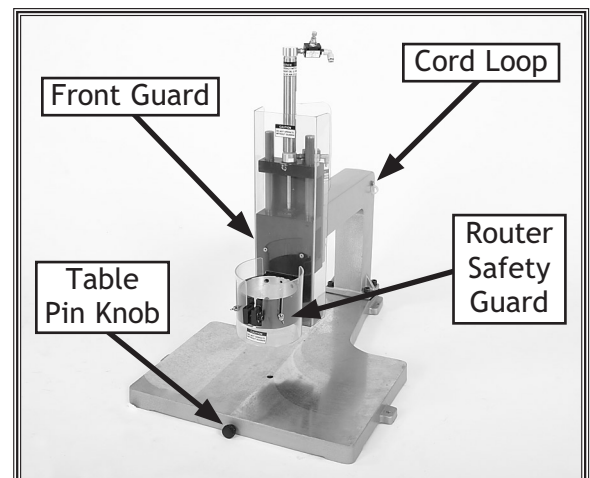

Figure 5. Front and router guards, cord loop, and table pin knob installed.
6. Install the front guard with two flat head screws, taking care not to break the guard by overtightening (see **Figure 5**).
7. Install the router safety guard with the two thumb-screws and plastic washers, taking care not to break the guard by overtightening (see **Figure 5**).
8. Thread the table pin knob bolt into the front of the table (see **Figure 5**). (It may help to lift the table so you can see where the shaft needs to thread into the table.)
9. Install the cord loop with the M4-.7 x 12 flange screw (see **Figure 5**).